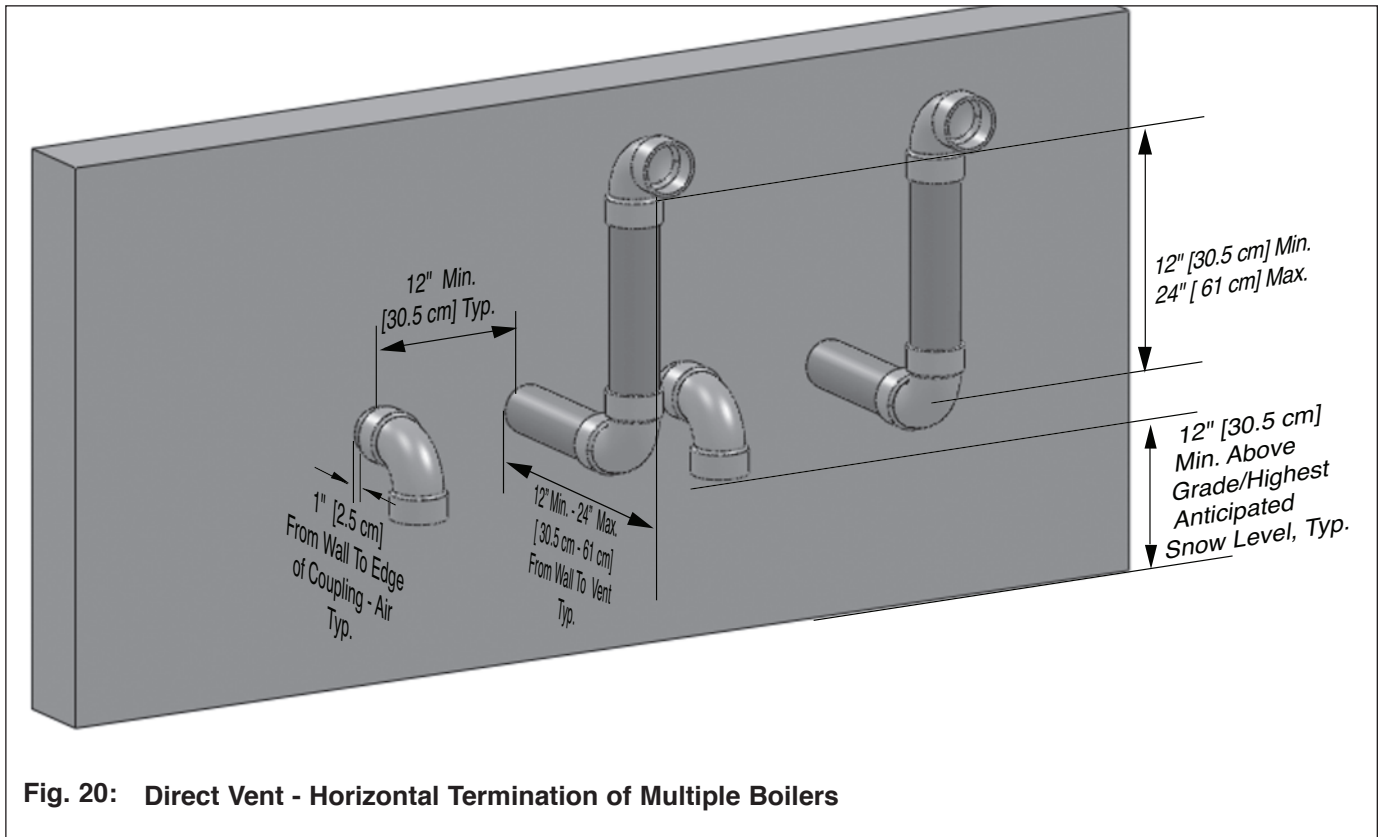

Fig. 20: Direct Vent - Horizontal Termination of Multiple Boilers
2. The wall penetration of the vent and combustion air pipe should be such that the combustion air inlet is a minimum 12" [30.5 cm] from the adjacent vent pipe of the other boiler for installations in the U.S as shown in Fig. 20. For installations in Canada, provide clearances as required by CAN/CSA B149.1.
Fig. 20 shows one option for vent and combustion air terminations of multiple PRESTIGE boilers. Either termination option shown in Figs. 8 or 9 page 13 can be used for multiple PRESTIGE boilers. The 12" [30.5 cm] minimum distance between center-lines of the combustion air and vent piping must be maintained for any chosen option.